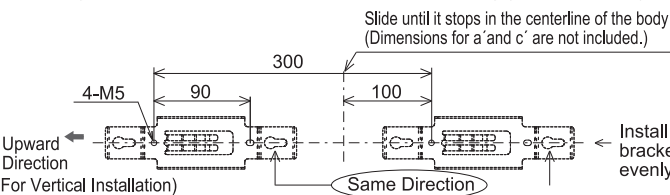

Figure 6. Mounting Hole Dimensions -2
① Ensure the Standard Bracket is attached to a flat and sturdy surface before making any holes for installation. Using an M5 screw, refer to "Figure 6. Mounting Hole Dimensions -2" and "Figure 3. Standard Bracket Mounting" to mount in place. Tighten the M5 screw with a torque of about 2.8 N·m.
② After attaching the Standard Bracket, the Body is attached. Insert the "Bracket Hook" in the back of the Main Unit and insert it into the "Slide-n-lock" holes of the bracket, then slide the Main Unit until the "Locking Hole" of the Main Unit is aligned with the "M3 tapping" for the Standard Bracket.
③ Use the "M3 tapping" Hex Socket Bolt to lock the Standard Bracket into place. This prevents the Body from unattaching from the Standard Bracket. Tighten with a torque of about 0.6 N·m.